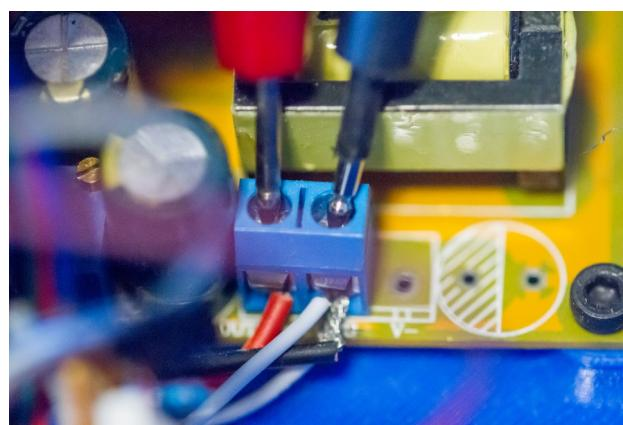
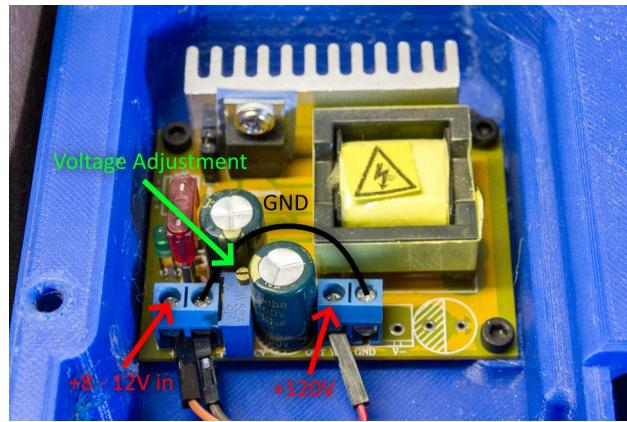

Figure 36: Output voltage from boost converter
Figure 37: Voltage Pins and Adjustment
40. Before calibrating the firmware, the first step is to set the capacitor voltage. Once you finished step 39, press the encoder button again. The **High-Voltage Boost Regulator** will turn on. **CAREFULLY** measure the output voltage as shown in figure 36 while adjusting the potentiometer on the converter as shown in figure 37. Adjust the voltage to the desired LED drive voltage (120 V recommended, anything higher is at your own risk).
45. Check that the **High-Voltage Boost Converter** is still set to the correct voltage (see Figure 36). It may have decreased slightly, go ahead and adjust to the correct voltage.